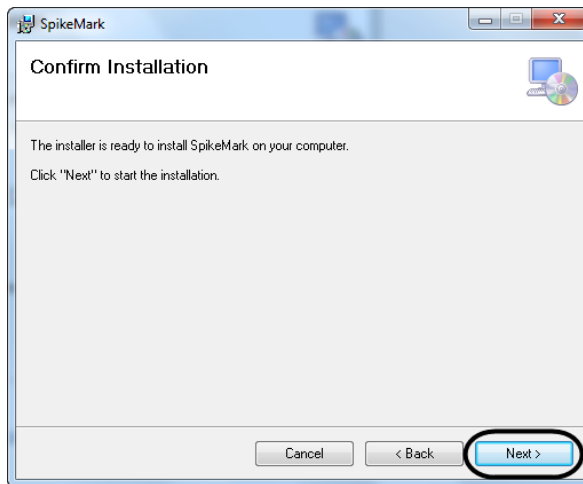

Figure 3
5. In the **Confirm Installation** window, click **Next** (Figure 3).